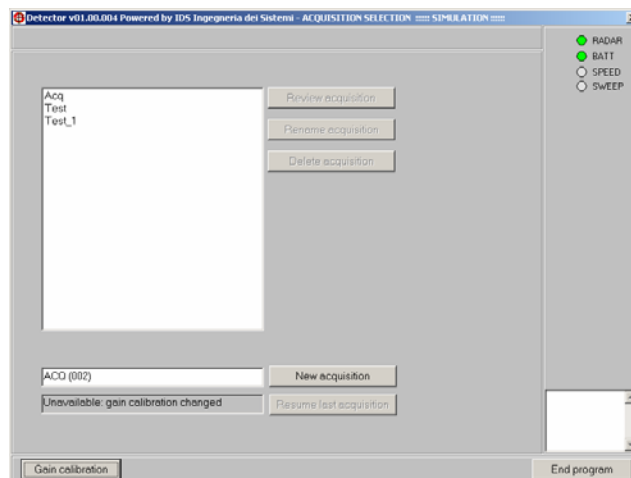

Fig. 5-6 – Acquisition selection window
Start data acquisition using the window shown in Fig. 5-6.
- Press the  button to stop and save the acquisition. The window shown in Fig. 5-6 then reappears.
- Press the  button to finish the scan and go back to the main menu shown in Fig. 5-6 to choose a new survey.
The following commands can be activated from the *ACQUISITION SELECTION* window (see Fig. 5-6):